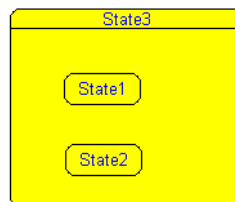

Figure 59: Composite state consisting of mutually exclusive substates
- 2 Drag the states onto the state to be the composite state. A region is automatically inserted, indicated by a horizontal line below the state name. An example of a composite state is shown in *Figure 59*, page 74.